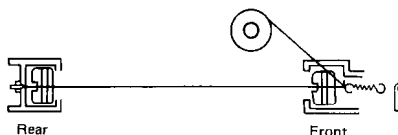

Figure 4-53
- 4) Hook the ring of the corona wire as shown in Figure 4-53, hook the corona wire tension spring on the corona wire, and twist the spring three to four times as shown in the figure.